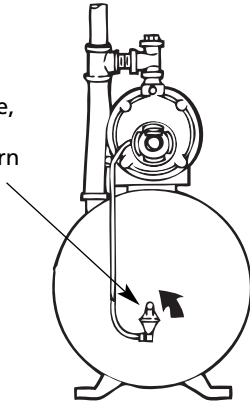

Figure 13 – Winterizing Standard Tank
2. Disconnect air volume control (AVC) tubing and turn AVC 180° counterclockwise. Any water in AVC will then drain back into tank (See Figure 13, page 14).